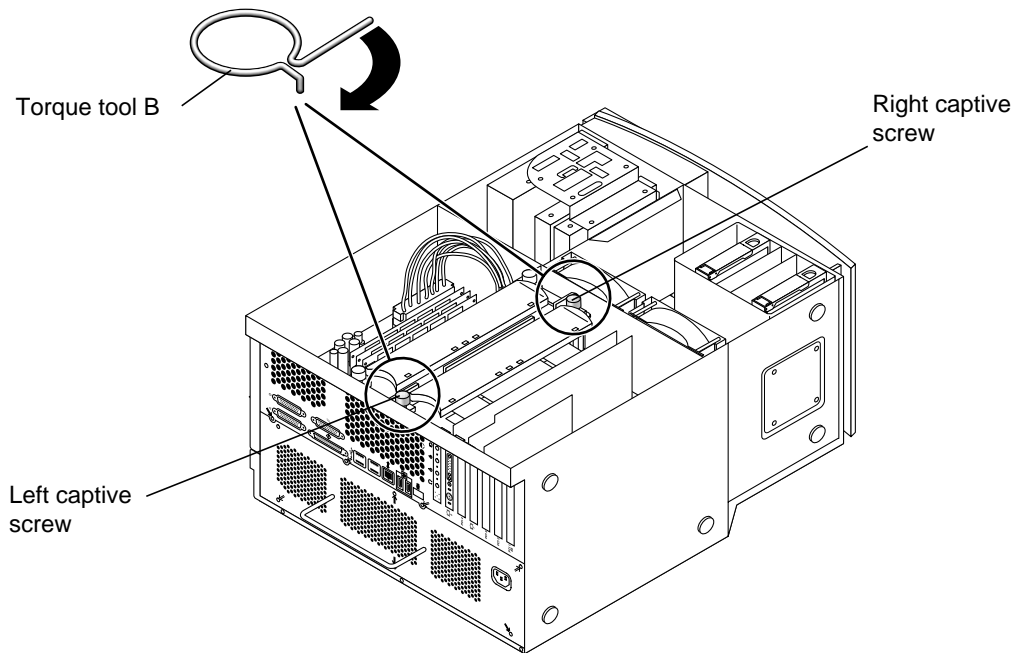

FIGURE 8-10 Alternately Rotating Left and Right Captive Screws One Turn Clockwise
- 5. Use torque tool B to rotate the left captive screw one turn clockwise (see FIGURE 8-10).**
6. Use torque tool B to rotate the right captive screw one turn clockwise (see FIGURE 8-10).